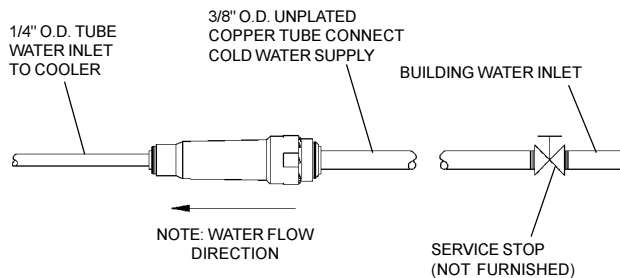

FIG. 1
4. Attach basin mounting brackets to basin studs located in the lower corners with two (2) provided wing nuts. Tighten securely.
6. Finish securing basin in place through the mounting bracket using the provided two (2) #8 x 3/4" tap screws and two (2) 11/64" ID washers. Tighten securely.
9. Make connection from water outlet to regulator valve assembly using the provided strainer. Insert water line in inlet side of strainer (see Figures 1 and 2) to positive stop - approximately 3/4" (19 mm). **DO NOT SOLDER TUBES INSERTED INTO THE STRAINER AS DAMAGE TO THE O-RINGS MAY RESULT.**